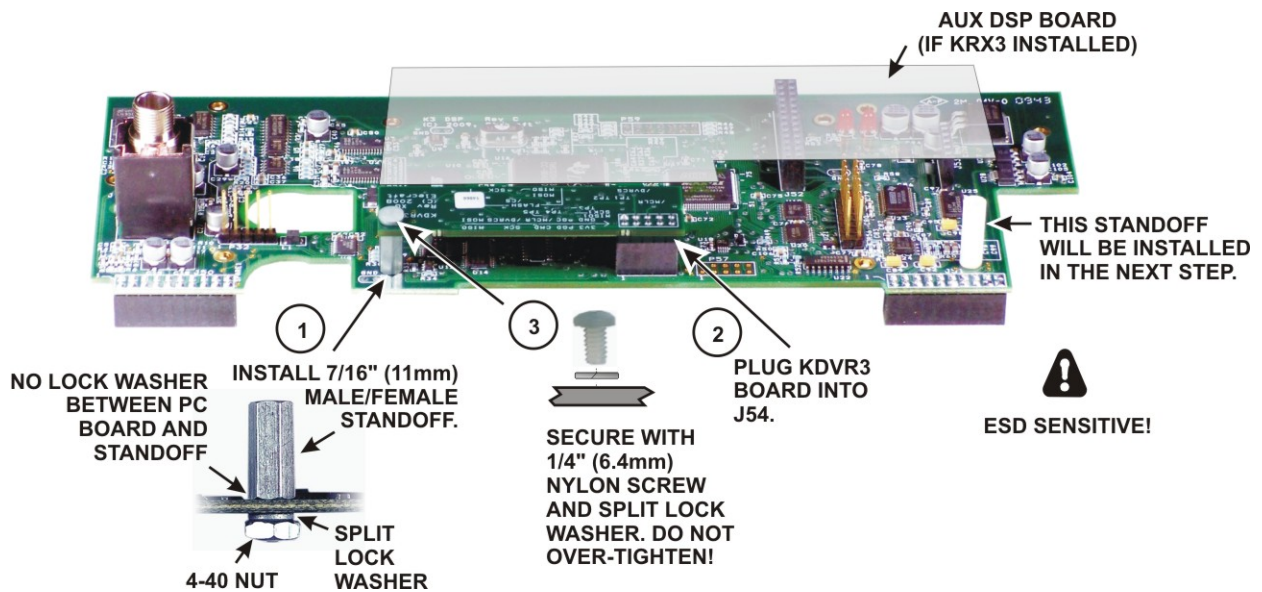

Figure 55. Installing the KDVR3 Board.
☐ If you have the KDVR3, install it on the main DSP board as shown in Figure 55. The required hardware is included in your KDVR3 kit. If you did not purchase the KDVR3, skip this step and continue with *Mounting the DSP Board Assembly on the Front Panel* on 39.
- Locate the main DSP board and install the nylon standoff near J51 as shown below. Be sure you place it in the correct hole near the edge of the board. The standoff is also shown in Figure 55.